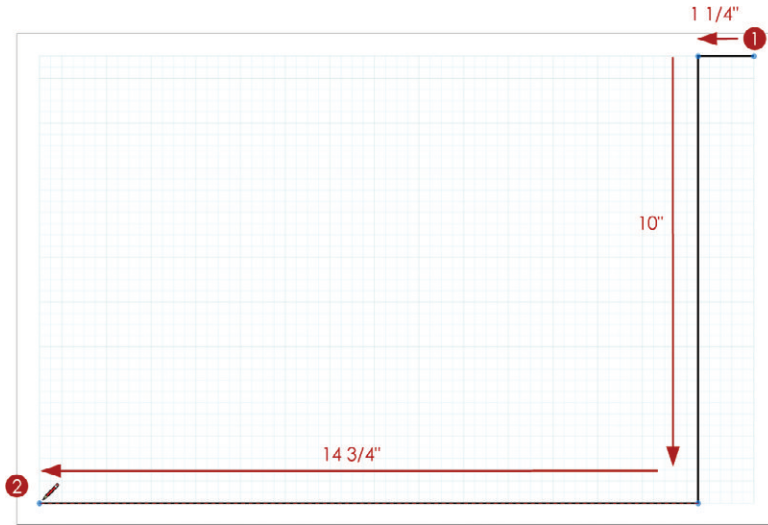

Figure 13.4 The main title-block line drawn along the margins
2. Draw a line along the margins as shown and then double-click on the bottom-left corner of the margin to finish the line (Figure 13.4).